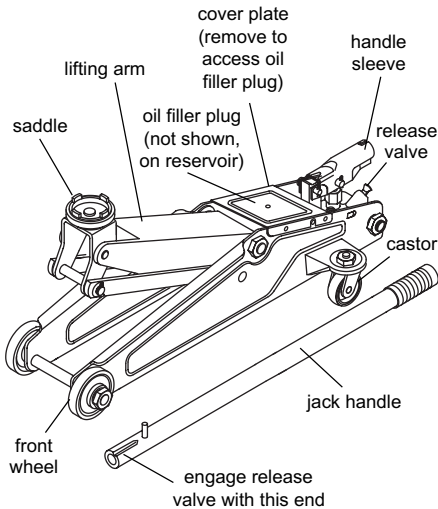

FIG. 1
Compare Fig. 1 illustration with your jack BEFORE operation to become familiar with the location of various jack components.
- Refer to the vehicle manufacturer's owners manual to locate approved lifting points on the vehicle. Position jack so that the saddle (see Fig. 1) is centered under the load at an appropriate lift point.
- With notched end of the jack handle (see Fig. 1) close release valve by turning the handle clockwise.